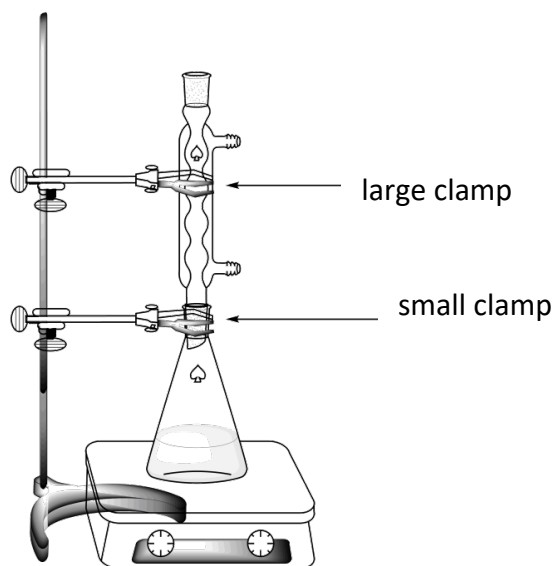

Figure 1. Setup for heating the reaction mixture under reflux
- Attach the reflux condenser by loosening the large clamp and adjusting the ground joints (see Figure 1). Raise your HELP card. A lab assistant will come to turn on the water and set the hotplate.
2. Recrystallize the crude product in the 50 mL ground-joint Erlenmeyer flask adding an **appropriate amount** of the **water/ethanol** mixture using the same setup as before for the reflux heating (see Figure 1). Raise your HELP card. A lab assistant will come to turn on the water and set the hotplate. If needed, add more **water/ethanol** solvent from the top of the condenser.